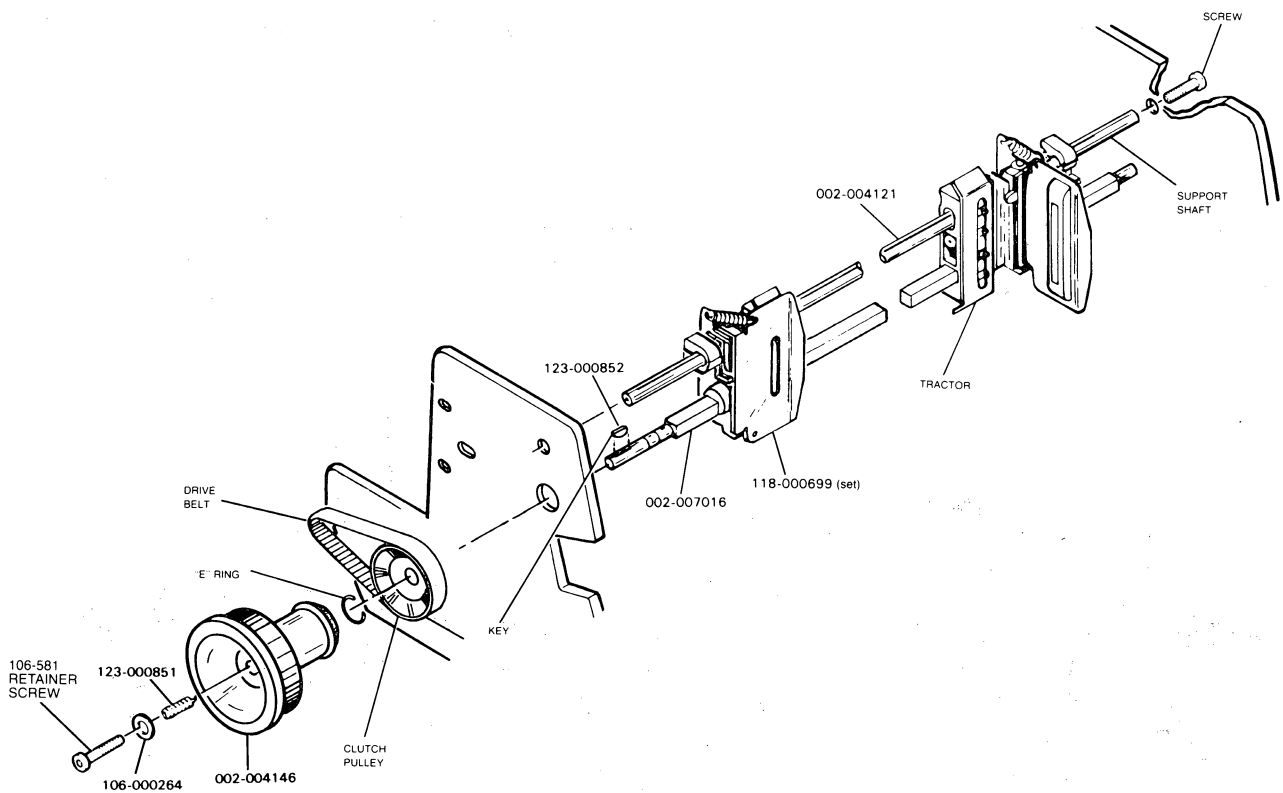

Figure 5.23 Paper Feed Mechanism Removal/Replacement
1. Remove the drive belt (see Figure 5.23).